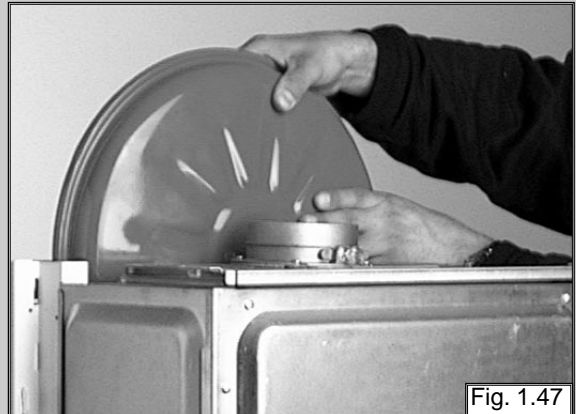

Fig. 1.47
3. Remove expansion vessel (see fig. 1.47).